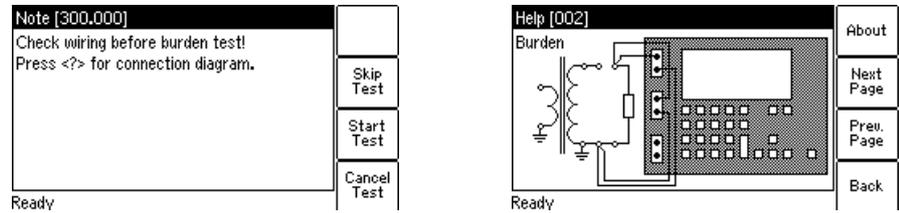

Figure 7-6 Burden test: Wiring check message (left) and wiring diagram (right)
4. The *CT Analyzer* displays a message, asking you to check the wiring for the test. Connect the burden as shown in Figure 7-6 using the 4-wire method (i.e., using two clamps for each side). Connect the black sockets of the *CT Analyzer* to the grounded side. You can display the connection diagram by pressing the **?** key while the wiring check message (or the **Burden** card) is displayed.